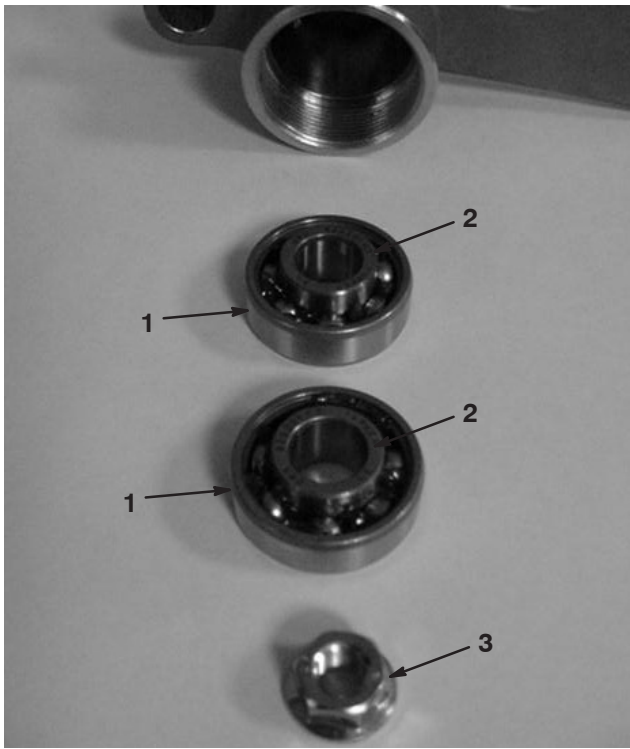

Figure 17
28. Insert the bearings onto the groomer shaft in groomer housing (Fig. 17). The extended bearing races should contact each other when installed to create a 1/4" gap between the bearings. Support the shaft to reduce misalignment through the bearings.
29. Secure groomer shaft to the groomer housing assembly with a flange lock nut (Fig. 17). While holding the nut on the other end of the groomer shaft, torque the nuts to 17–21 ft.-lb. (23–28 N·m). Do not overtighten the nuts.